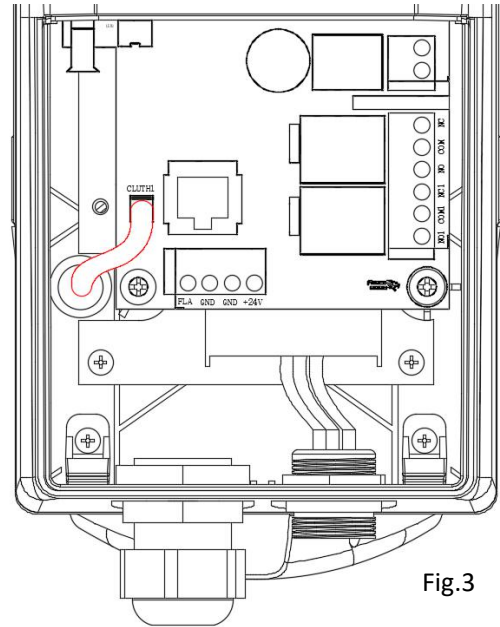

Fig.3
Step 3: Open the flip cover of the motor, extend the cable of the emergency manual chain hoist assy through the rubber plug of the motor, lead it to the side of the circuit board, insert the 2P cable terminal into the CLUTH port on the circuit board, then close and merge Lock the flip cap tightly. (Fig.3)